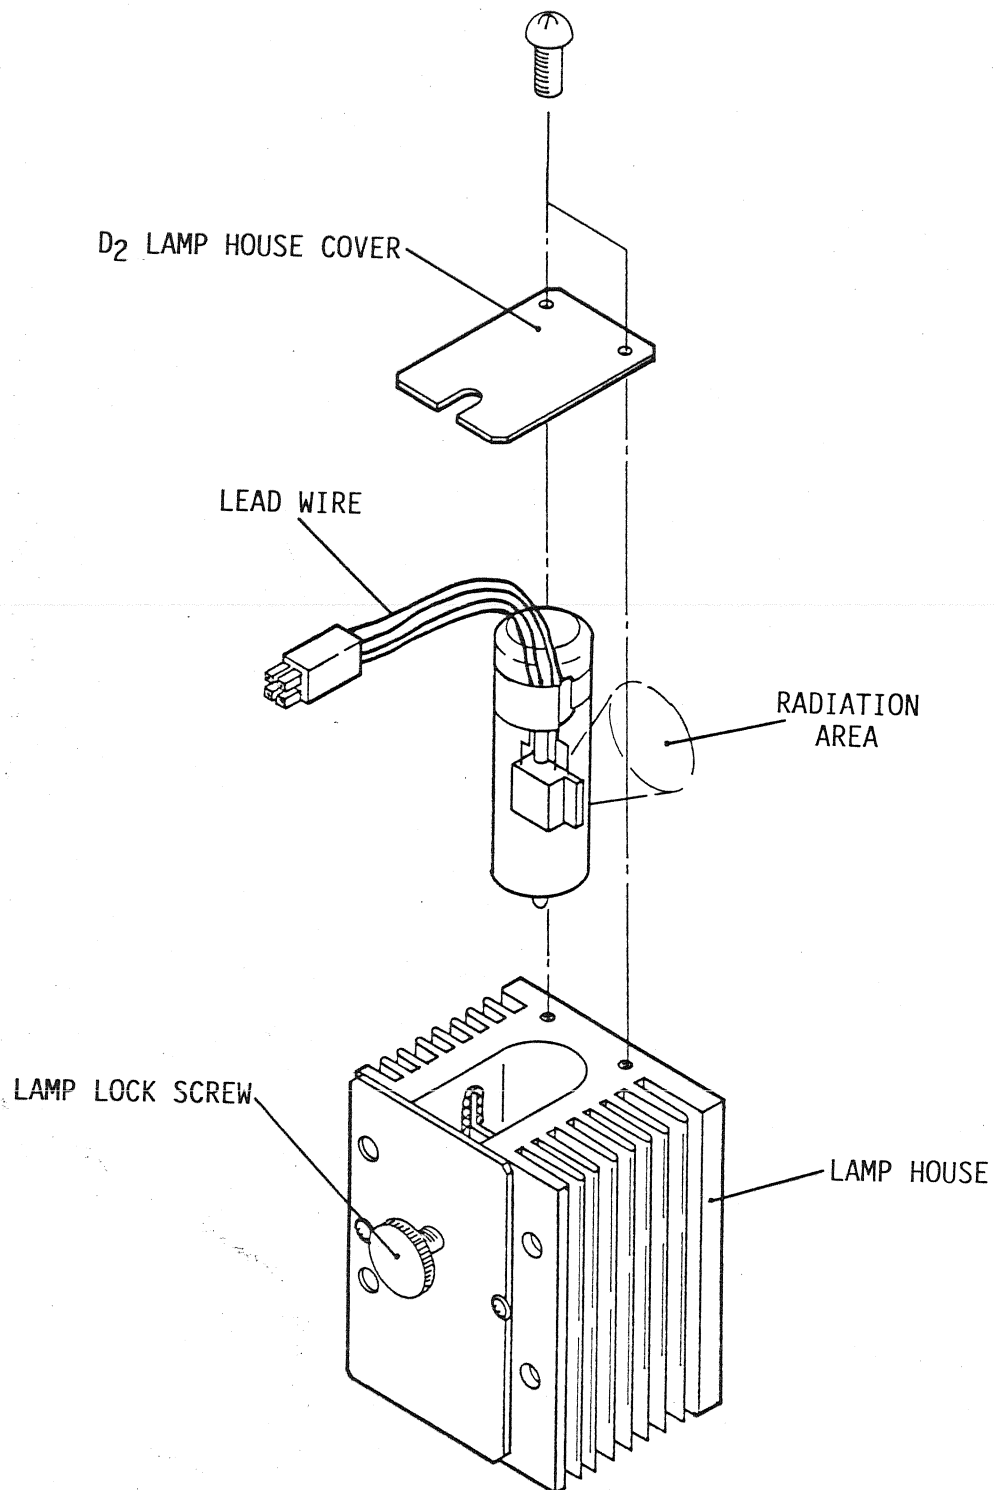

Fig. 10-2 Partially Exploded View of D₂ Lamp House Assembly
- 6) Remove the D₂ lamp house cover, referring to Fig. 10-2.
- 3) Put the lamp into the lamp house with its radiation area in the opposite direction to the lock screw, by holding the lead wire, referring to Fig. 10-2.
- 14) Re-place the monochromator cover (1) and the lamp house cover, referring to Fig. 10-2.